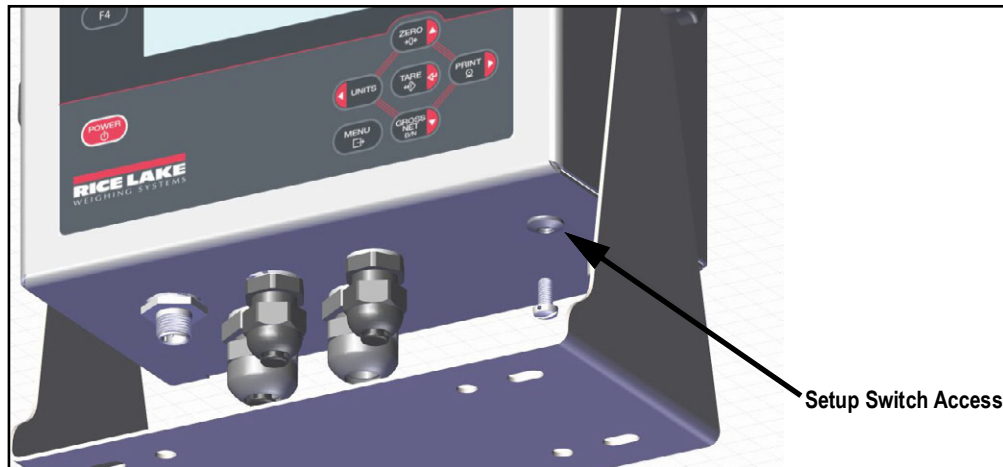

Figure 3-1. Bottom View – Setup Switch Access
- To prevent the use of the **Menu** key to enter the configuration and calibration mode, instead requiring use of the externally seal-able setup switch located inside the enclosure (Figure 3-1 on page 29), place the jumper in the **Off** position